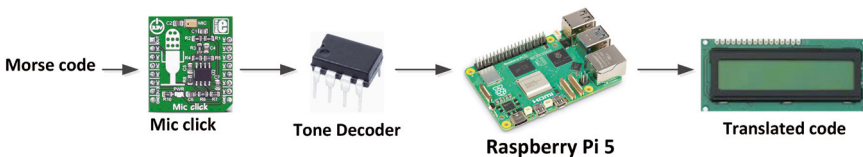

Figure 4.55: Block diagram of the project.
**Block diagram:** Figure 4.55 shows the block diagram of the project. An audio amplifier with on-board microphone module (**Mic click board**, manufactured by Mikroelektronika) is used to receive the audible Morse code. The audio code is then amplified and sent to a tone decoder IC (LM567), which generates binary High and Low values based on the input tone. The output of the tone generator is connected to a GPIO pin of the Raspberry Pi 5. The translated code is then displayed.